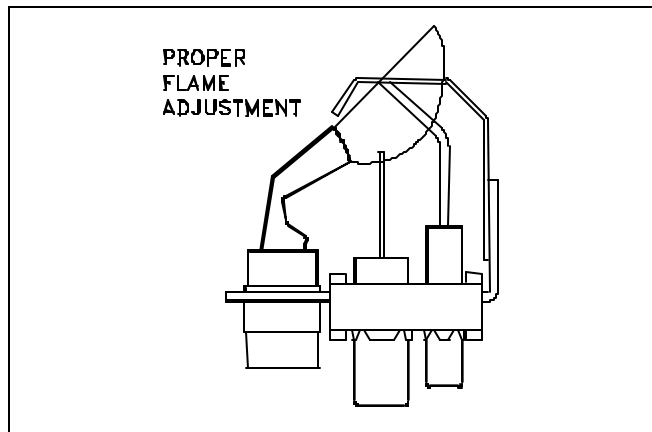

Figure 28. Pilot Flame Adjustment.
2. Pilot flame should cover 1/2 inch of tip of flame sensor as shown in Figure 28.